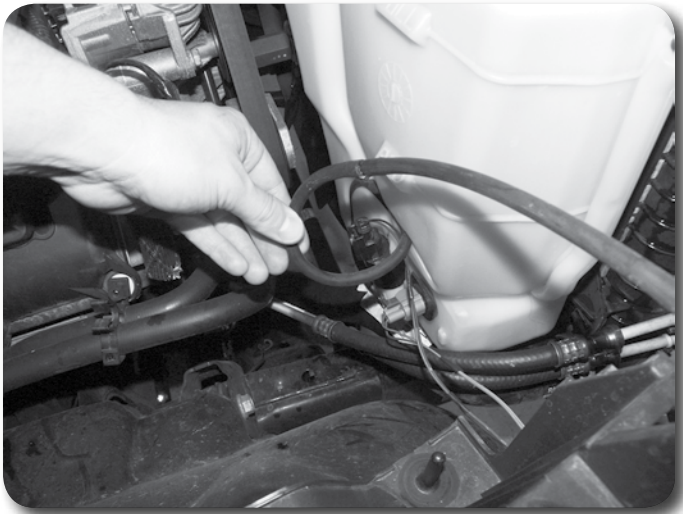

Figure 1
9. Disconnect the coolant overflow sensor and windshield washer pump wiring harness from the overflow bottle **Figure 1**. Disconnect the windshield washer hose at the first splice away from the bottle (near the inner fender).